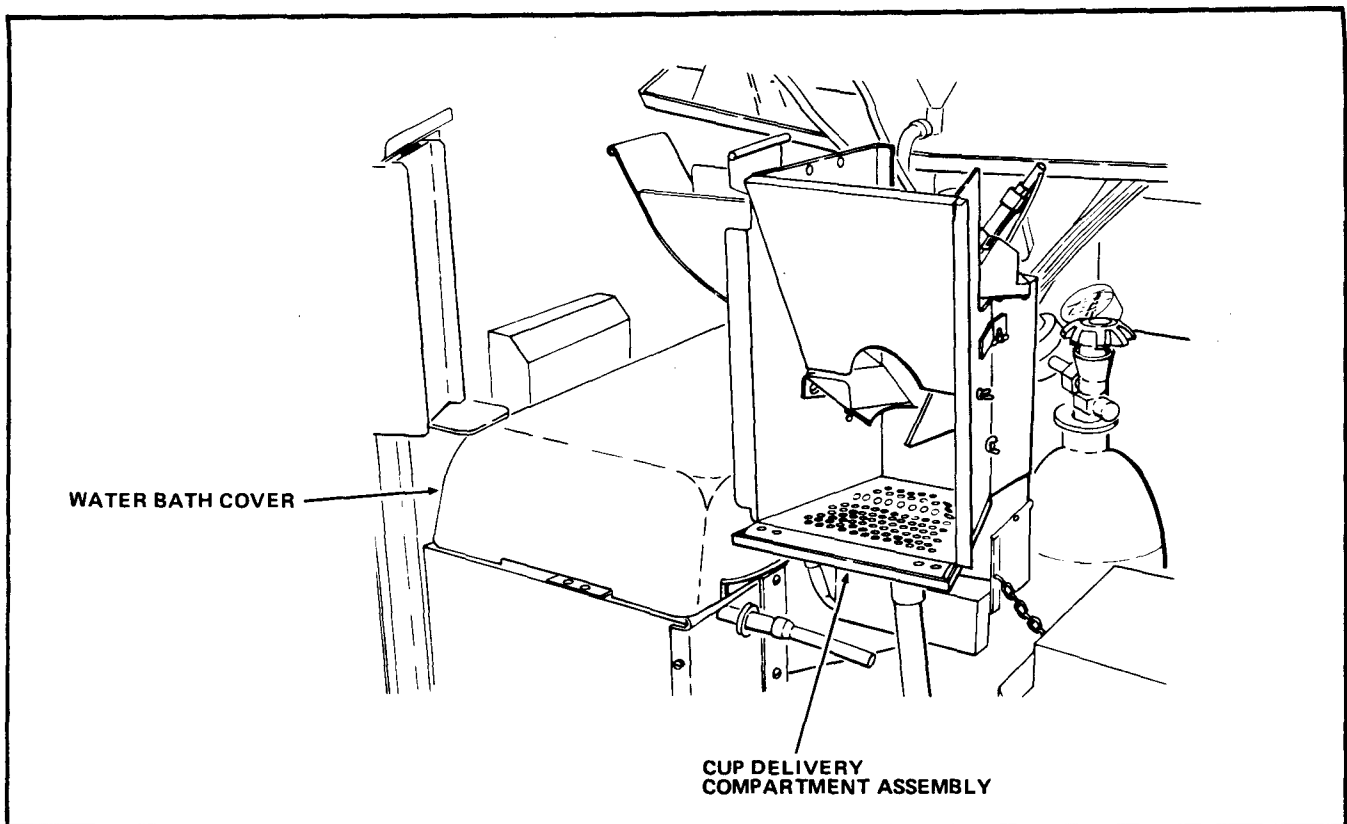

FIGURE 1
5. Install the Water Bath Cover on top of the Water Bath. See Figure 1.
7. Install the Cup Delivery Compartment on the Cup Station Support. See Figure 1.